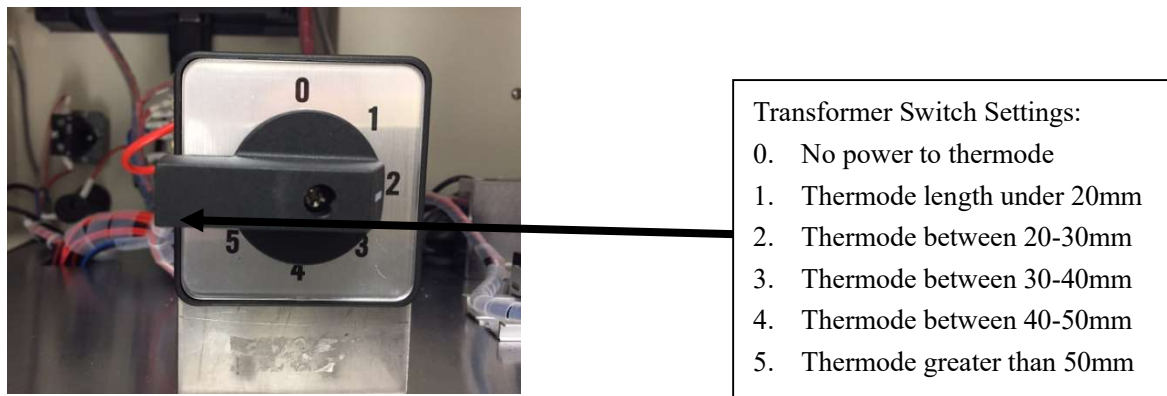

Figure 3.4
5.7 The transformer switch is located in the rear cabinet and shown in Figure 3.4. It is adjusted based upon the length of the thermode according to Figure 3.4. It is also related to the width of the thermode, the larger the transformer number, the quicker the thermode heats.